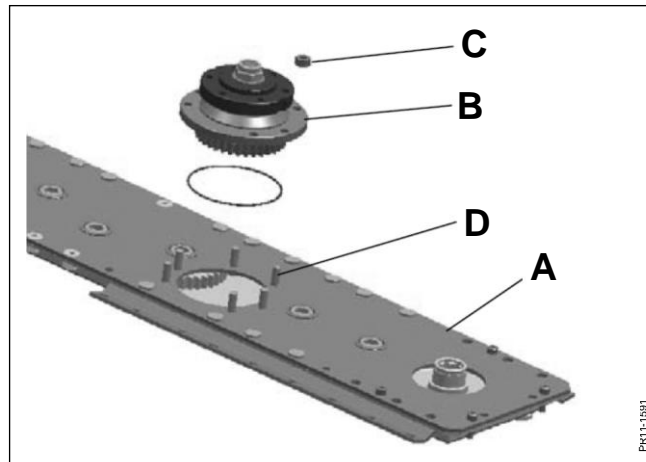

Fig. 5-8
**Fig. 5-8** When the hub is mounted the surface of the cutter bar **A** and the underside of the hub **B** must be clean and greased with a thin layer of grease. The nuts **C** must be locked with Loctite 243 on the threaded pins **D** and tightened to **92 Nm** (9.2 Kpm).